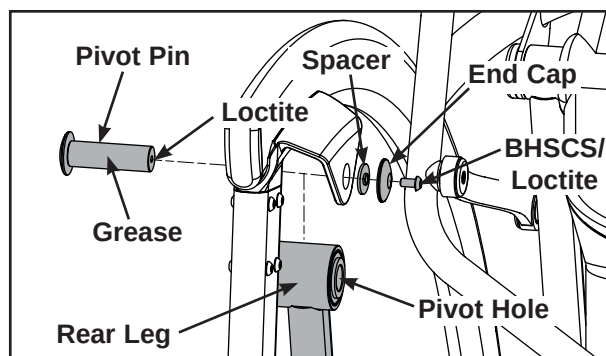

Figure 3
- A. Using two 7/32" Allen wrenches, remove the inside BHSCS, plastic end cap and spacer as shown in Figure 3. While holding the rear leg remove the pivot pin. **NOTE:** You may need a rubber mallet and punch to remove the pivot pin.
- B. Carefully lower the rear leg. See Figure 3.